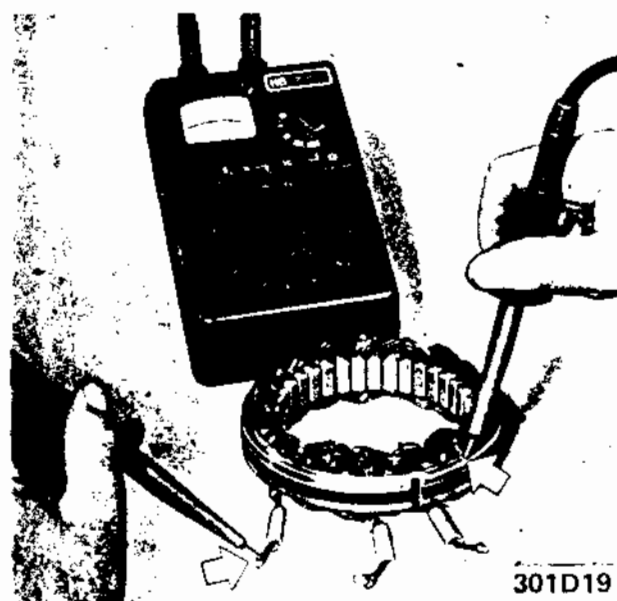

Figure 1D-8 Checking Stator for Ground
5. Test stator windings for a short, using a low reading ohmmeter. Check two phases at a time by holding ohmmeter probes alternately on winding ends. Ohmmeter should read between .18 and .19 ohms. See Figure 1D-9.